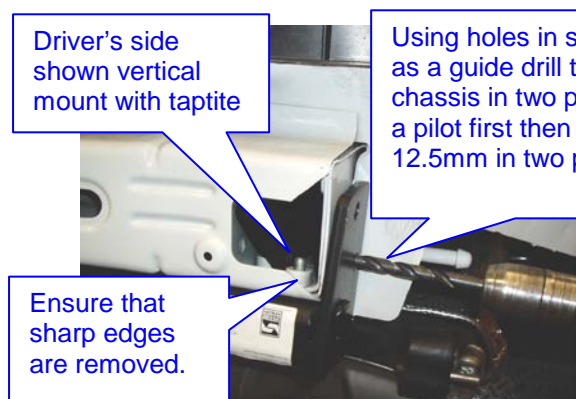

Fig 11
- Offer tow bar to the vehicle sub frame then fasten with driver side vertical mount with taptite bolt provided see fig11.